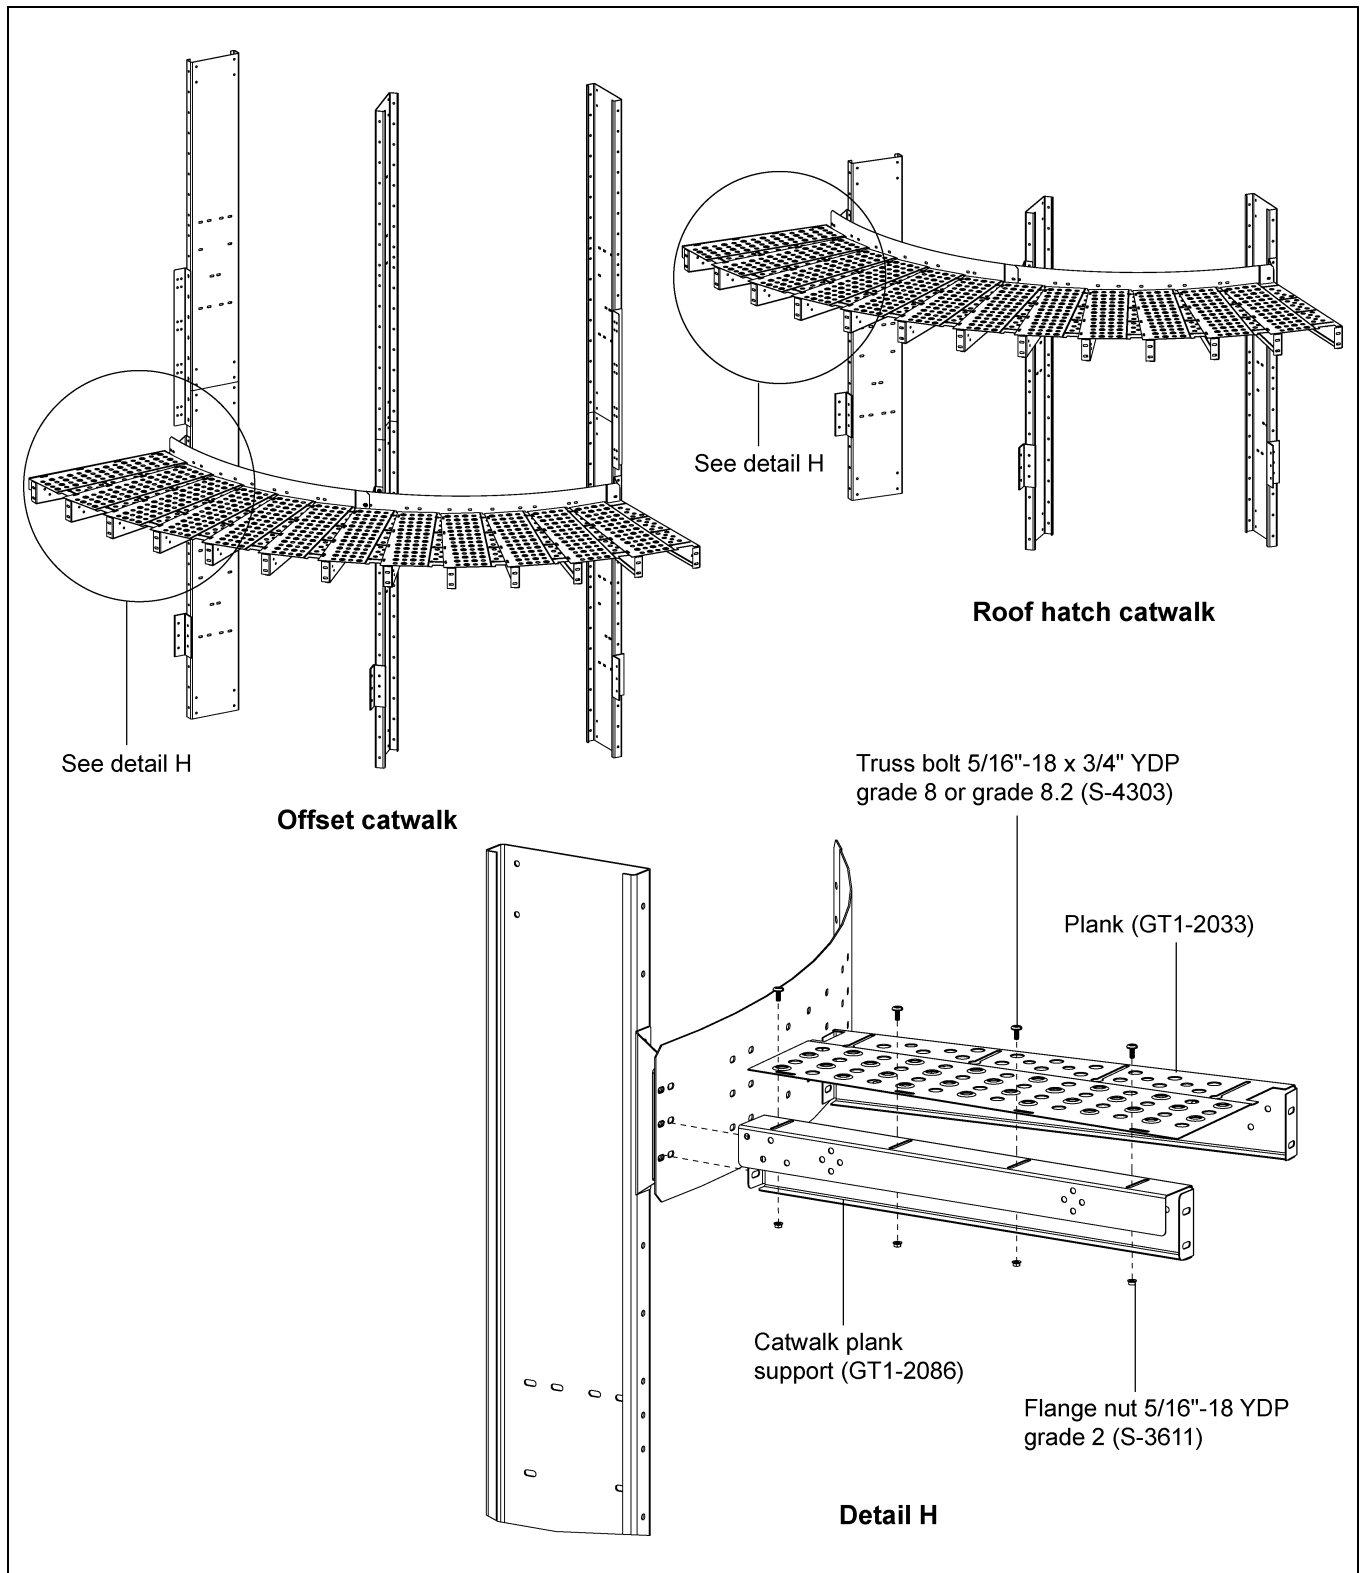

Figure 6R Plank Support (GT1-2086) Installation for Offset and Roof Hatch Catwalks
1. Once the planks are installed, install the plank support (GT1-2086) at the catwalk closing end using 5/16"-18 x 3/4" YPD grade 8 or grade 8.2 bolts (S-4303) and 5/16"-18 YDP grade 2 nuts (S-3611). (See Figure 6R.)